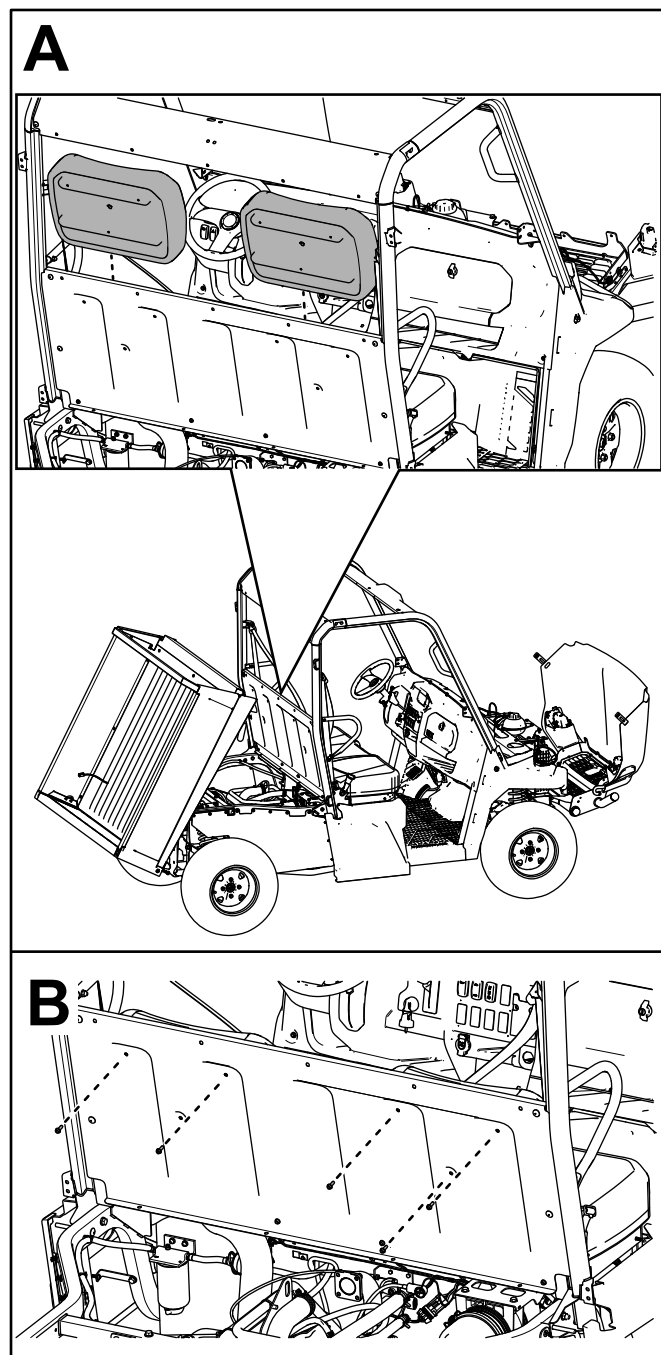

Figure 27
- E. Secure the 2 seat backs to the seat panel using 5 hex-washer head bolts (1/4 x 3/4 inch) as shown in Figure 27.